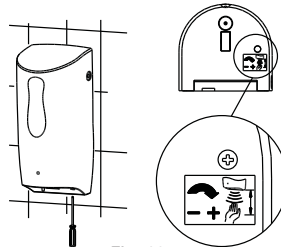

Fig. 10
4. If distance is < 25 cm, check suitability and sensor adjustment as per Fig. 10.
- Use a small flat-head screwdriver. Insert into small hole at the bottom of the dispenser as shown in Fig. 10.